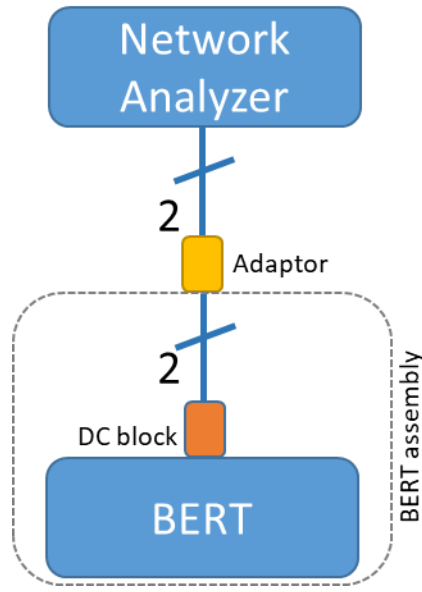

Figure 9. Test setup for BERT assembly Return-Loss extraction
3. Construct a Test setup as shown in Figure 9. The coax phase matched cables shall be used in TER test setup as shown in section 4.2.3, Figure 13